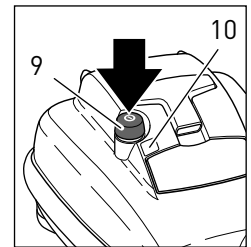

Figure 2
When the canister's main power knob (9) is in the ON position, you may turn the suction and the power head off and on with the suction-control slider (2a). To turn the power off using the suction-control slider, pull the slider to 0 suction, then continue pulling the slider up until it "clicks" into the OFF position. The green power head light will then shut off (the green light on the canister (#10, figure 2) will remain illuminated until the vacuum is powered off using the main power knob).